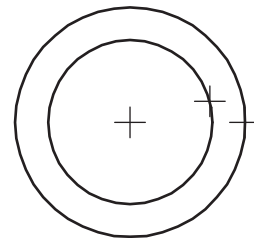

Fig. 5-4
- Drag the radius into place to create a second circle, as shown in Fig. 5-4. Review the detail of the cylinder head to approximate the size of the circle.